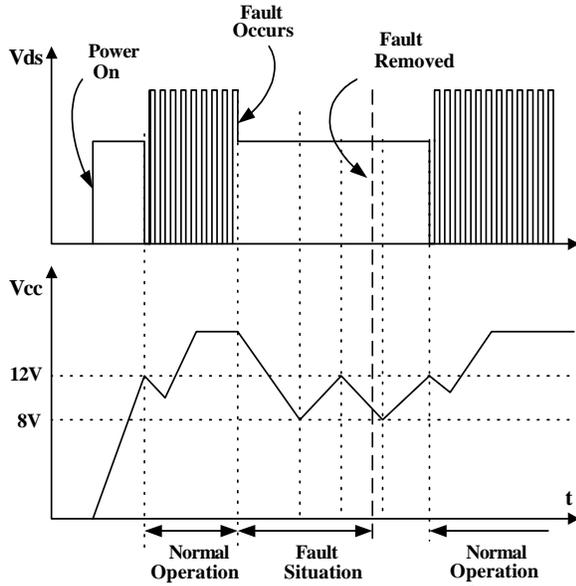

Figure 6. Auto Restart Operation
**3. Protection Circuit:** The FSDM0465RB has several self protective functions such as over load protection (OLP), over voltage protection (OVP), and thermal shutdown (TSD). Because these protection circuits are fully integrated into the IC without external components, the reliability can be improved without increasing cost. Once the fault condition occurs, switching is terminated and the SenseFET remains off. This causes Vcc to fall. When Vcc reaches the UVLO stop voltage, 8V, the protection is reset and the internal high voltage current source charges the Vcc capacitor via the Vstr pin. When Vcc reaches the UVLO start voltage, 12V, the FSDM0465RB resumes its normal operation. In this manner, the auto-restart can alternately enable and disable the switching of the power Sense FET until the fault condition is eliminated (see Figure 6).